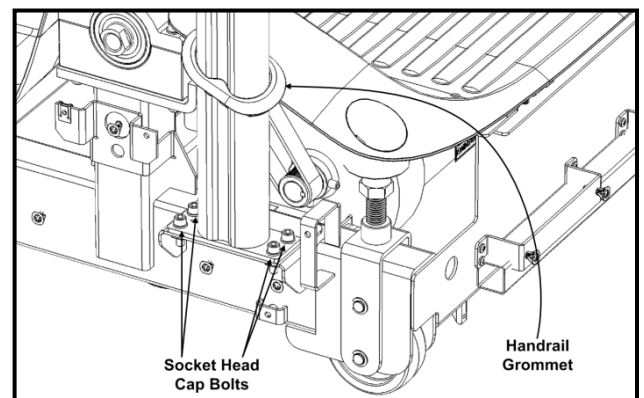

Fig. 8
8. Mount the left & right lower handrail sections to the TreadClimber base and loosely thread four socket head cap bolts to each handrail mount (Fig. 8) along with sliding on the corresponding left & right handrail grommets into place.